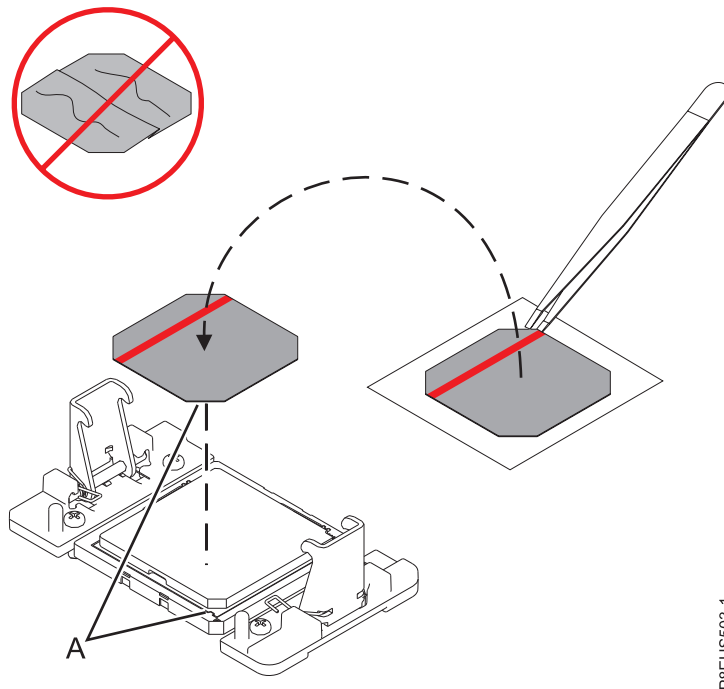

Figure 194. Installing the TIM onto the processor lid
- d. Using the tweezers, remove the TIM from the carrier strip and center it onto the system processor module. The side with the red stripe must be facing up. Align the beveled edges of the TIM and the system processor module (**A**) as shown in Figure 194.